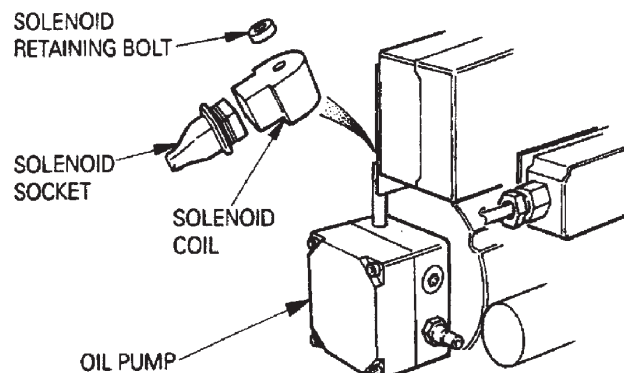

Fig.12 REMOVAL OF OIL SOLENOID
4.1.3 To Replace Oil Pump Solenoid Valve (see fig 12)